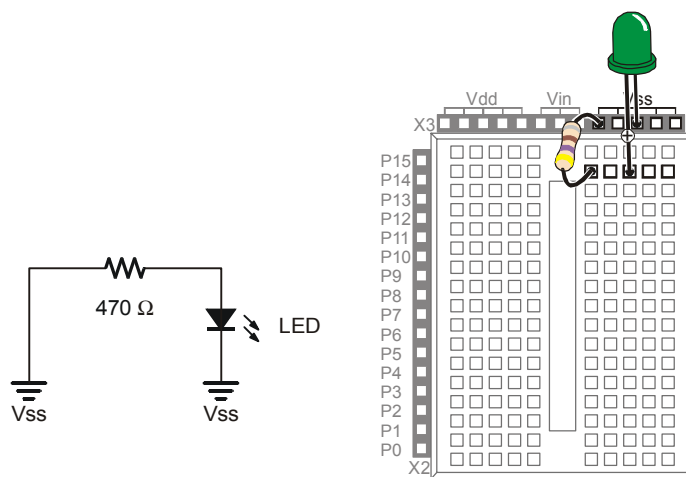

Figure 2-9
In the next activity, you will program the BASIC Stamp to turn the LED on, then off, then on again. The BASIC Stamp will do this by switching the LED circuit between two different connections, Vdd and Vss. You just finished working with the circuit where the resistor is connected to Vdd, and the LED emits light. Make the changes shown in Figure 2-9 to verify that the LED will turn off (not emit light) when the resistor's lead is disconnected from Vdd and connected to Vss.
- ✓ Unplug the resistor lead that's plugged into the Vdd socket, and plug it into a socket labeled Vss as shown in Figure 2-9.